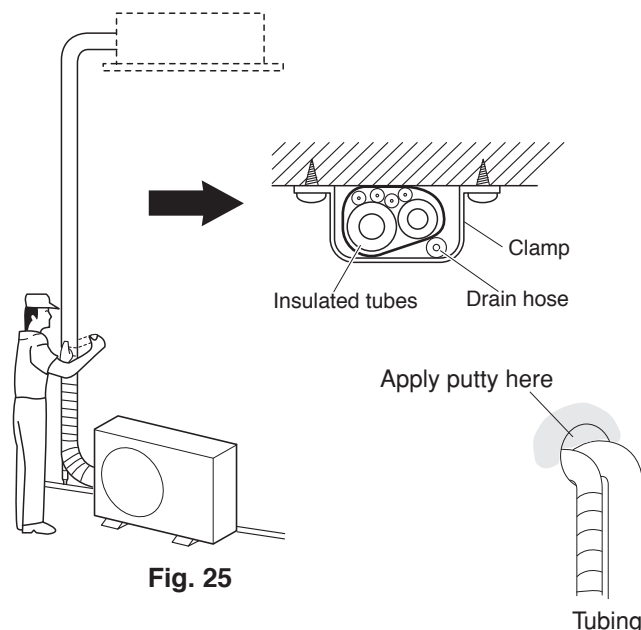

Fig. 25
- (1) At this time, the 2 refrigerant tubes (and electrical wire if local codes permit) should be taped together with armoring tape. The drain hose may also be included and taped together as 1 bundle with the tubing.
- (2) Wrap the armoring tape from the bottom of the outdoor unit to the top of the tubing where it enters the wall. As you wrap the tubing, overlap half of each previous tape turn. (Fig. 25)
- (3) Clamp the tubing bundle to wall, using 1 clamp approx. every 47" (120 cm).